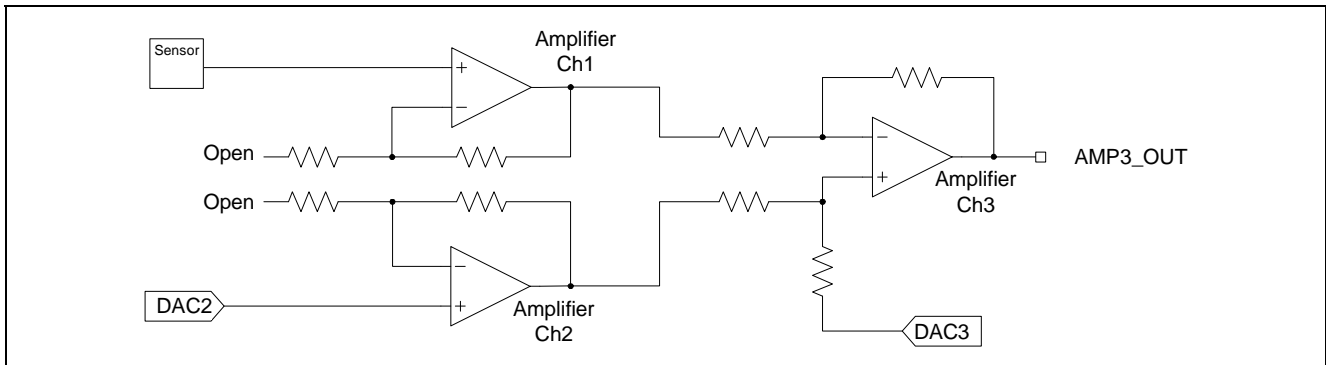
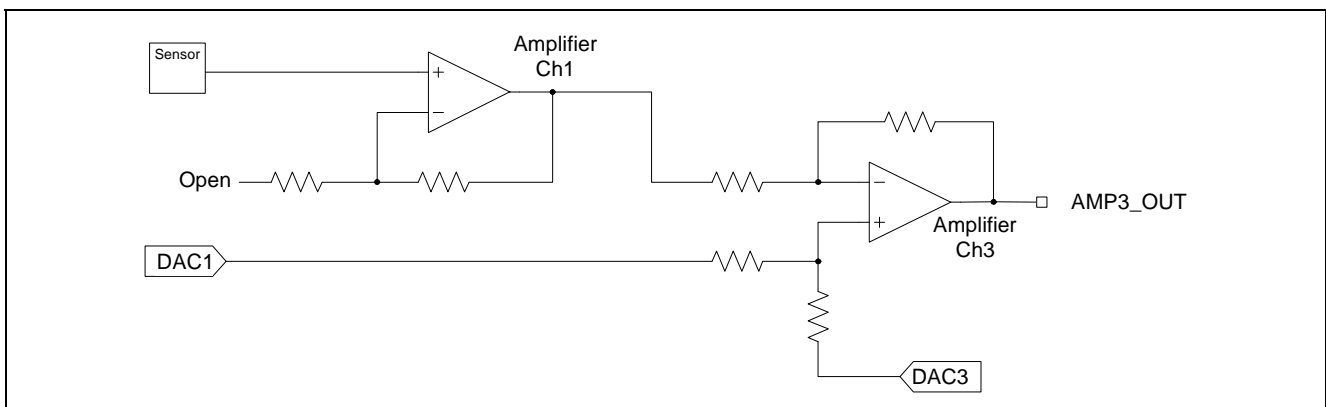

Figure 4-3 Circuit Diagram of Differential Amplifier (Using Three Configurable Amplifier Channels)
Figure 4-4 Circuit Diagram of Differential Amplifier (Using Two Configurable Amplifier Channels)
Figure 4-3 shows a circuit diagram of a differential amplifier that is configured by using configurable amplifier channels Ch1 to Ch3 and D/A converter channels Ch1 and Ch2 in Smart Analog IC 500. This circuit diagram below is also an example of a non-inverting amplifier for the connected sensor.
Figure 4-4 shows another example of the differential amplifier whose input impedance is enough high. Comparing the circuit diagram in Figure 4-4 with the one in Figure 4-3, you can see that configurable amplifier Ch2 is not being used. Configurable amplifier Ch2 can therefore be connected to the other sensor.
- In the same way as in Figure 4-3, because the input impedance is high, this differential amplifier is ideal for connecting to sensors whose output signals include resistance values.
- Unlike Figure 4-3, however, two sensors can be used at the same time.